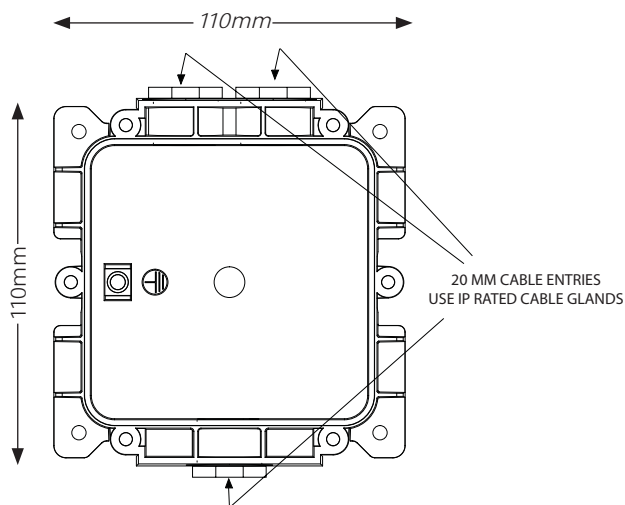

Fig. 1 Backbox
- Place the earthing plate behind the backbox (see Earth continuity plate section). Fit the backbox to a flat surface using the four fixing holes. The cable entry holes should be in the vertical plane. The backbox can be mounted with either the single or double entry holes at the top. (Fig. 1). **Note: All MCP installation and securing screws have a maximum tightening torque of 0.6Nm.**